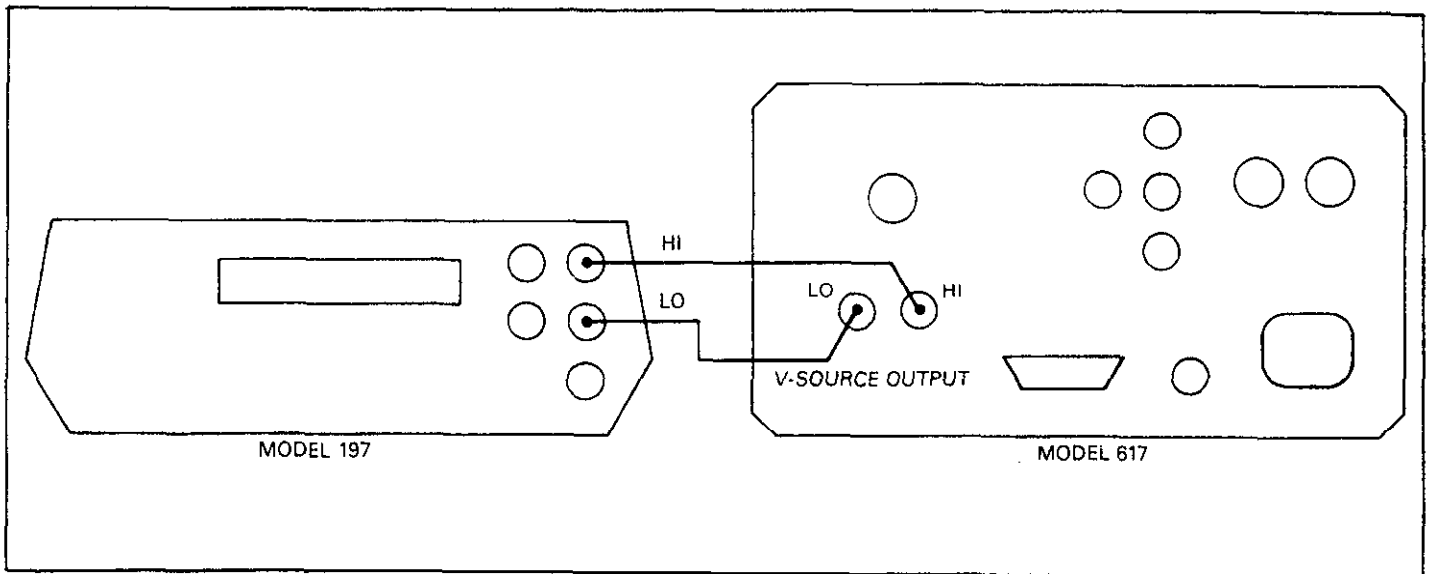

Figure 5-9. Connections for Voltage Source Verification
1. Connect the DMM (see Table 5-1) to the voltage source output terminals, as shown in Figure 5-9.